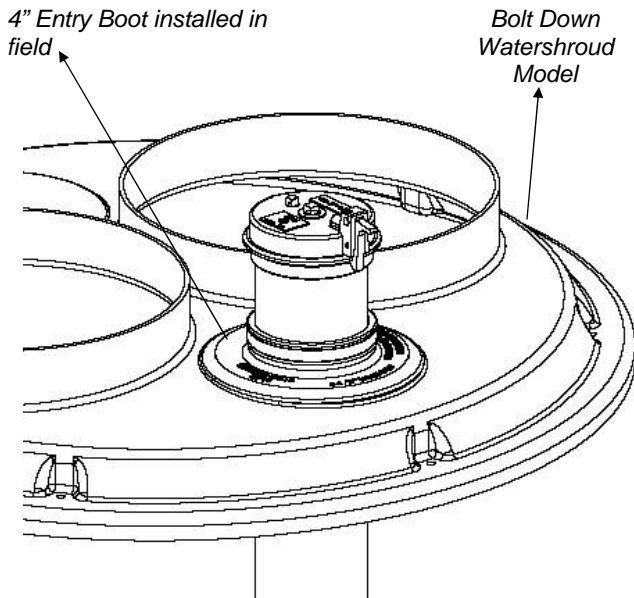

Figure 1
2. Insert supplied 4" FRP pipe with male threaded end and supplied monitoring cap into the entry fitting installed into the cover to the desired height. **Note:** Ensure that there will be adequate clearance between the multiport cover and monitoring cap. Tighten the two entry fitting band clamps to 30 in-lbs. **See Figure 1.**